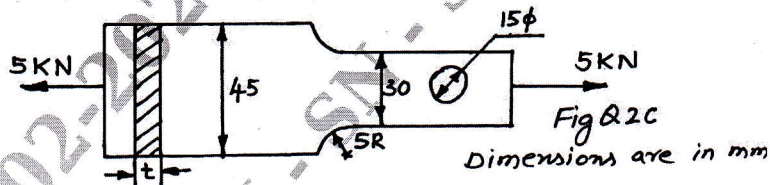

Fig. Q2 (c)
c. A flat plate subjected to a tensile force of 5 kN is shown in Fig. Q2 (c). The plate material is Grey Cast Iron FG200 ($\sigma_{ut} = 200$ MPa) and factor of safety is 2.5. Determine the thickness of the plate.